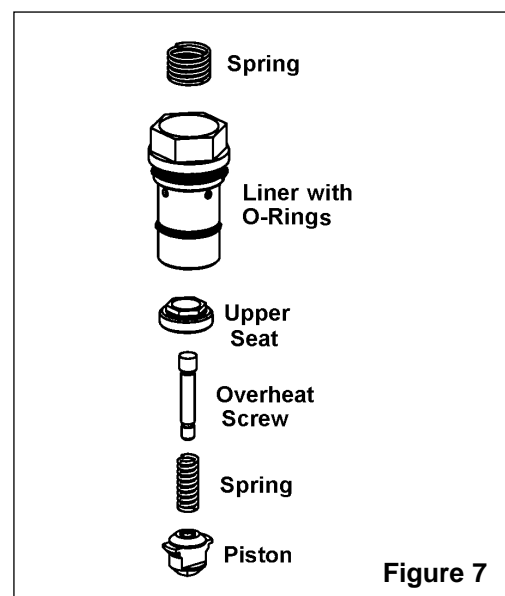

Figure 7
- disassemble the piston assembly components as shown in Figure 7 (use a 1/2" deep-well socket to remove the upper seat)